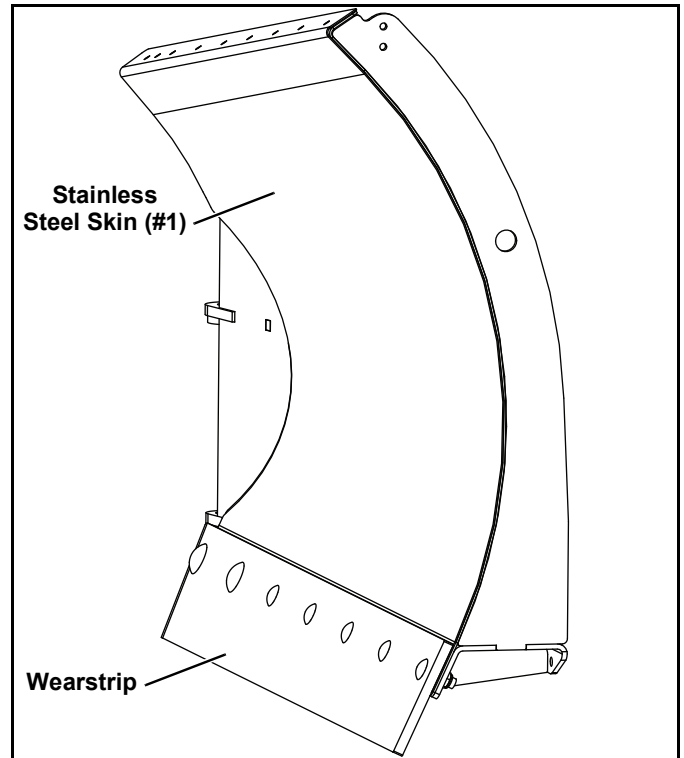

Figure 2
3. Align the slots in the Stainless Steel Skin (#1) with the carriage bolt locations and slide the skin down behind the wearstrip, as far as it will go (See Figure 2).